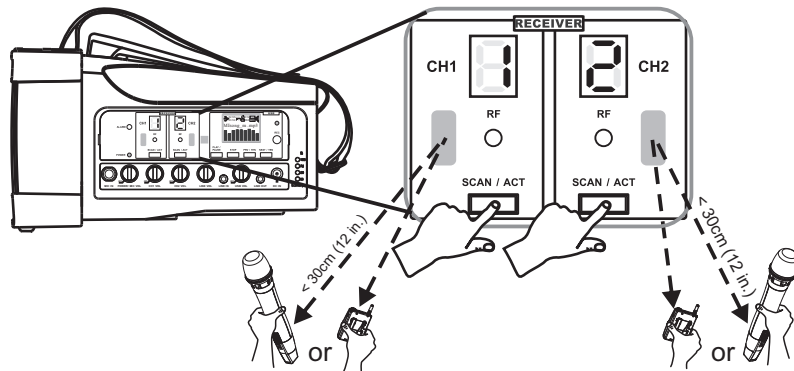

Fig. 6
- (E) MA-100DG/SG ID CODE set-up: ID CODE helps avoid the same channel interference from each other at the same venue. It is recommended where multiple channels are used concurrently. This system provides 16 ID codes (0, 1, 2, 3, 4, 5, 6, 7, 8, 9, A, B, C, D, E, F).
- (1) Press and hold SCAN button and concurrently, turn on the Power Switch. Release SCAN button when LED display glows to indicate ID CODE is activated. Press & release SCAN button once move one number up. Turn off the power to save the change when a number is selected.
- (2) Turn on the system power again and perform the ACT synchronization (refers to “ACT Synchronization (Sync) between Receiver and Transmitter Channels.”) to ensure transmitter and receiver ID CODE are synchronized and working properly.
(F) ACT Synchronization (Sync) between Receiver and Transmitter Channels, Fig. 6:
- (1) Press and release SCAN/ACT button, the current channel blinks and is ready for ACT synchronization.
- (2) Power on handheld or bodypack transmitter. Bring the transmitter sync port (red indicator) within 30 cm (12-inch) of CH 1 or CH 2 receiver sync port.
- (3) Once ACT synchronization is done, the channel screen will stop blinking and RF indicator glows green to indicate a successful RF link.
- (4) To cancel an accidental activation of ACT function, just press SCAN/ACT button again.